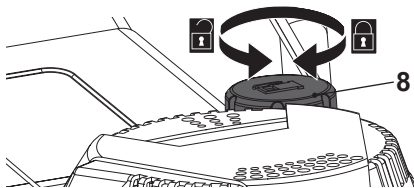

Fig. 7
3. Unscrew and remove the fuel tank cap (8) (Fig. 7).